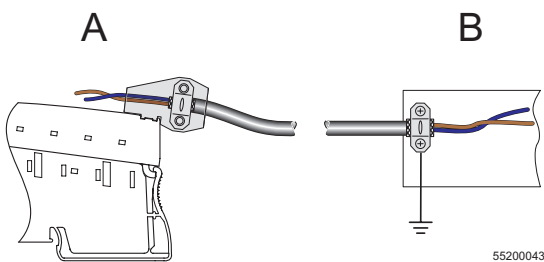

Fig. 4 Connection of sensors using a multi-wire bus cable
Always connect analog sensors using twisted and shielded cables (see Fig. 4).
- Strip the outer sheath of the bus cable where required and connect the shield to the Inline terminal using the shield connection clamp of the shield connector (see A in Fig. 4).
- Lead the bus cable to the sensors (see B in Fig. 4).